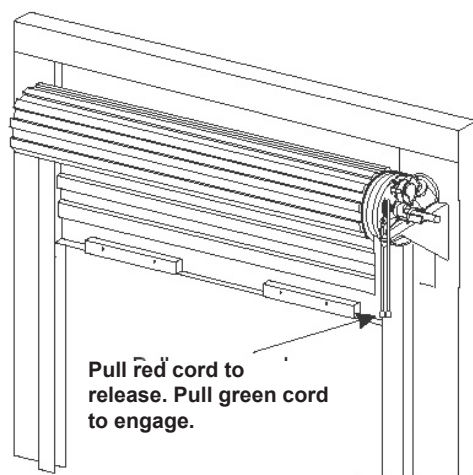

Fig. 14
- 6 Re-engage the drive unit by pulling the red cord. (see Fig 14).